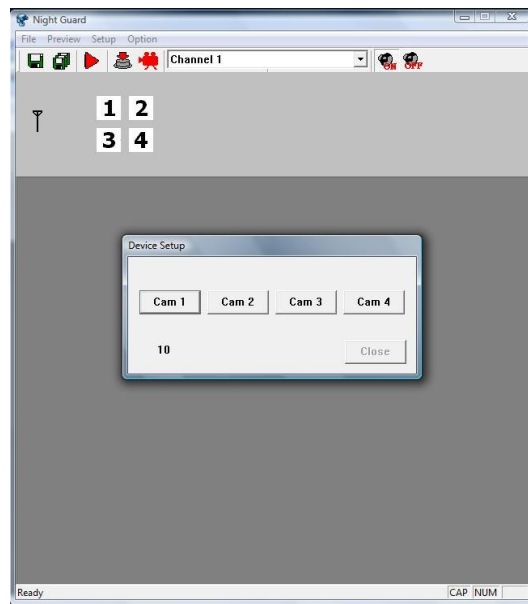

Fig. 10
- § Once a camera is selected there is a 10 second count down time to synchronize the NW601 (Fig. 10 & 11.).